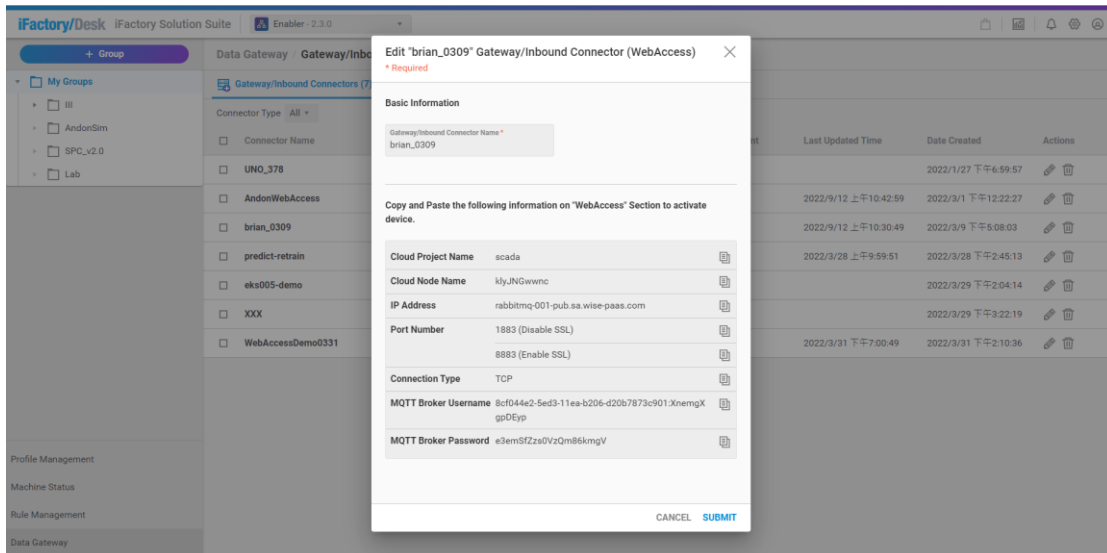

Figure 6 Data Inbound
- Host: Copy "IP Address" from Figure 6
- Username: Copy "MQTT Broker Username" from Figure 6
- Password: Copy "MQTT Broker Password" from Figure 6